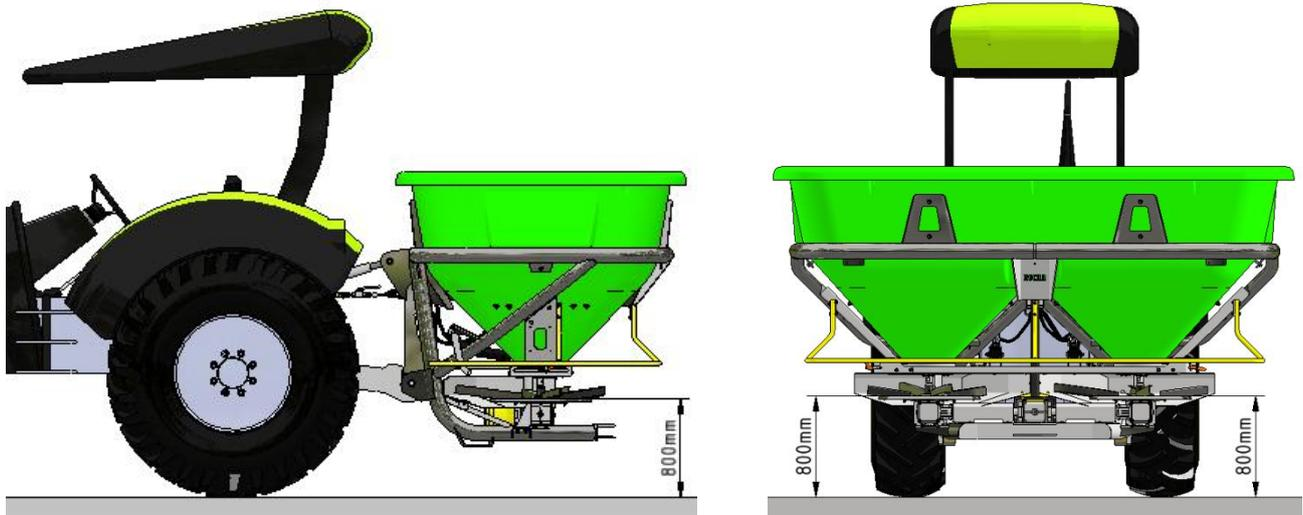

Figure 5.2 – Adjusting the machine to the working position.
- Adjust the working height of the KC-RD EVO 2000 Spreader, taking the distance between the ground and the spreading plates as a reference (Figure 5.2). After adjusting this dimension (800mm), you must now level the machine in relation to the ground (Figure 5.2).